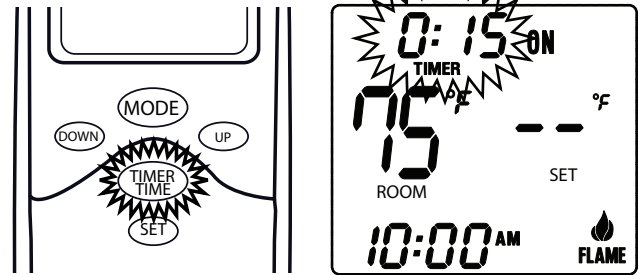

Fig. 21 Setting Timer
1. Press and release the TIMER/TIME button on the transmitter. The word **TIMER** will appear and 0:15 minutes will begin blinking on the screen (Fig. 21).
2. Press the UP or DOWN button on the transmitter to begin advancing through each of the countdown time options. Available countdown times are 15 minutes, 30 minutes, 45 minutes, 1 hour, 1 hour 30 minutes, 2 hours, 2 hours 30 minutes, and each additional half-hour up to nine (9) maximum hours.